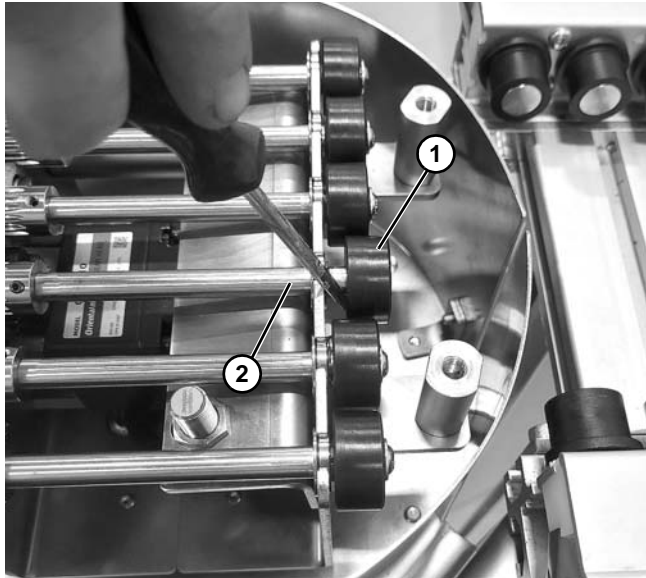

Figure 139
7. Pry roller (Figure 139, item 1) from shaft (Figure 139, item 2).